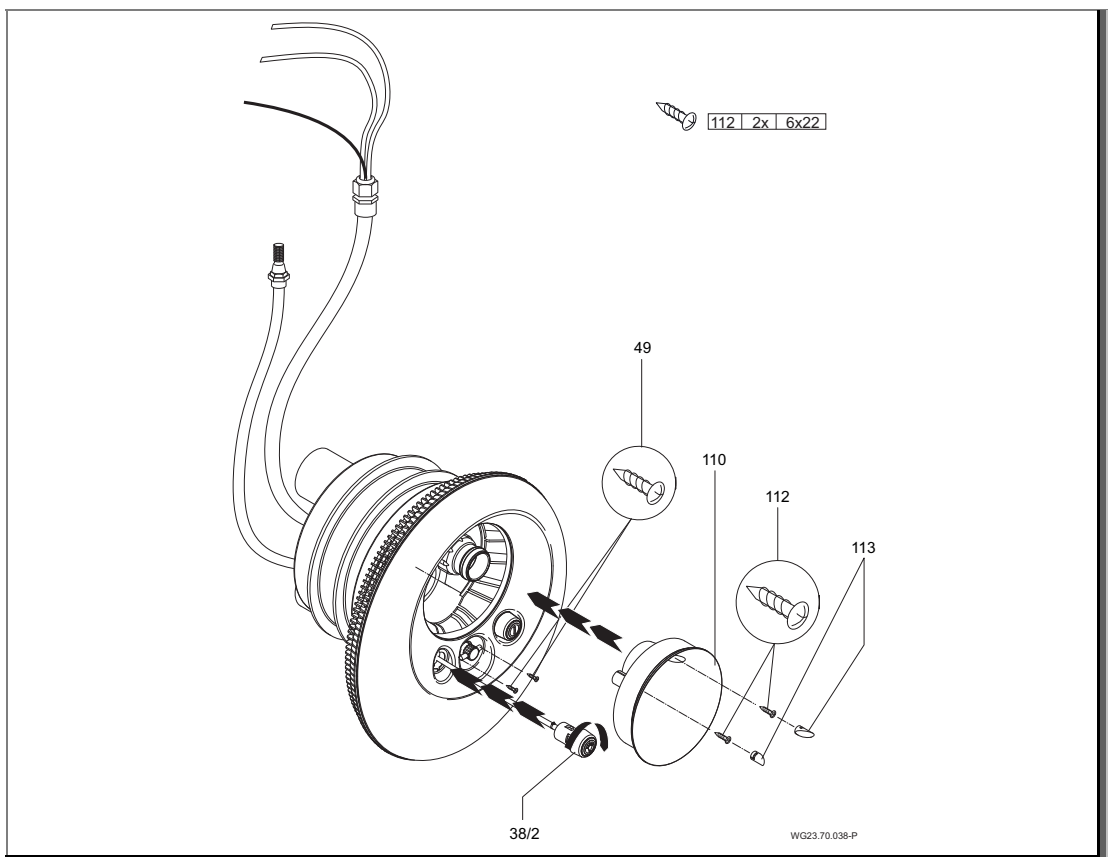

Fig. 19
8. Position the stainless steel cover (93) on the suction housing (107) and attach to the nozzle housing with the screws (49). Insert the two pneumatic buttons through the light cover (110) in the nozzle housing and lock by turning it clockwise. (Fig. 19)
9. By attaching the light cover (110) the stainless steel cover (93) is also attached. Place the light cover over the ball nozzle (54) in the nozzle housing (102.1) and attach it with the screws (112). (Fig. 19)